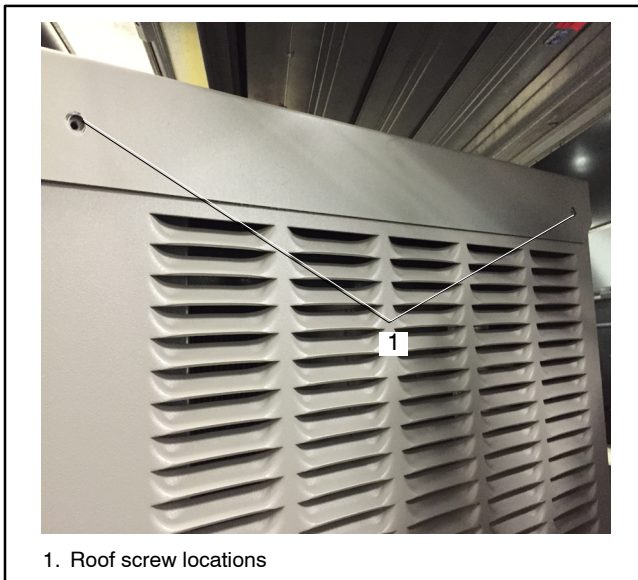

Figure 3 Location of roof screws
3. Remove the roof screws. See Figure 3.